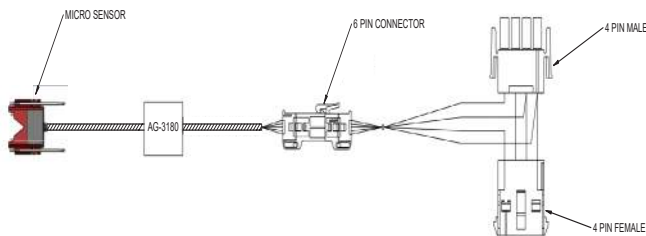

FIGURE 3
3. Disconnect the AG-3180E wiring harness at the 6 Pin connectors. See Figure 3.